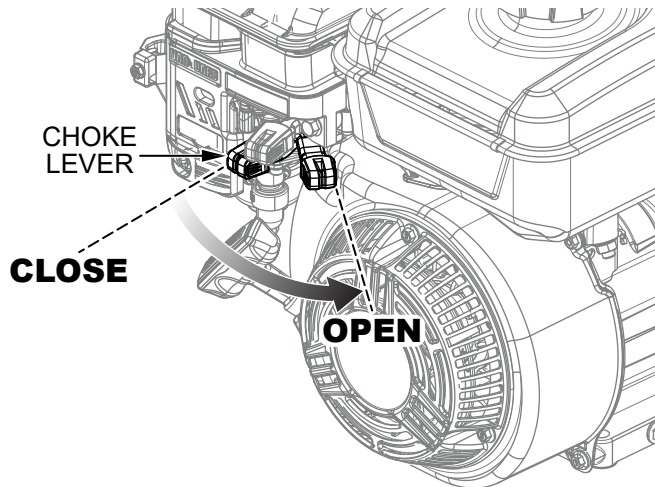

Figure 10. Choke Lever (Open)
3. If starting a warm engine, place the **engine choke lever** in the **OPEN** position (Figure 10).
5. If the engine has started, slowly return the choke lever to the **OPEN** position (Figure 10) as the engine warms. If the engine has not started, repeat steps 1–5.